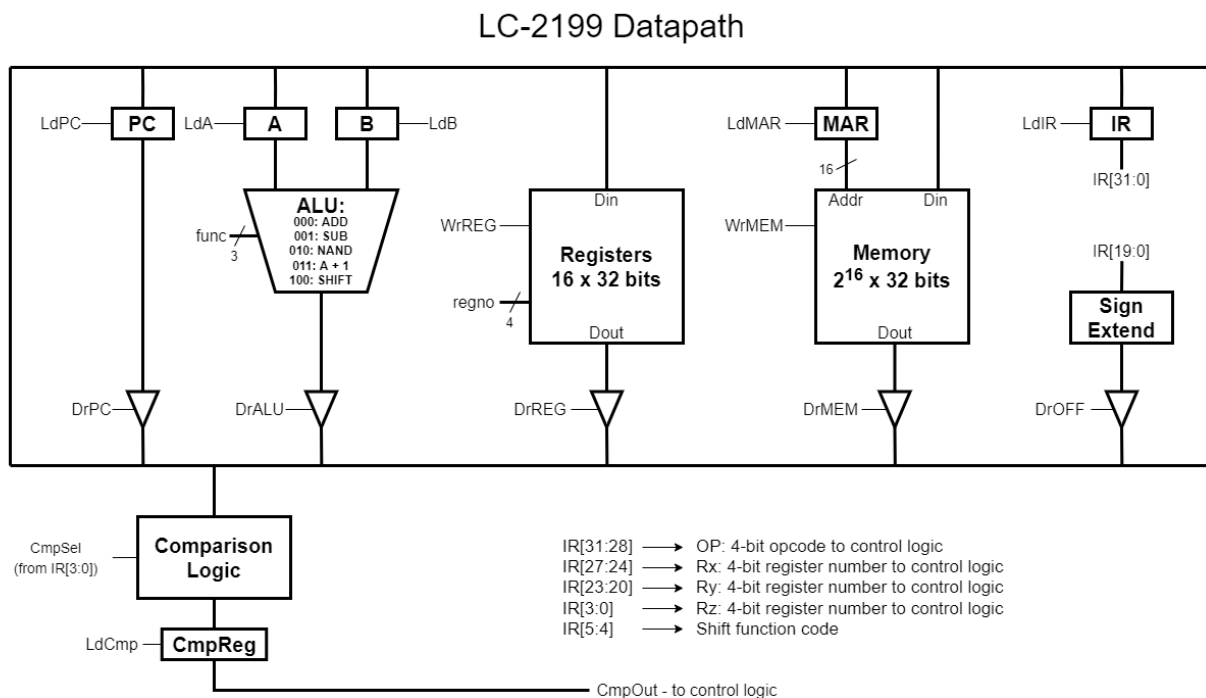

Figure 1: Datapath for the LC-2199 Processor
2. Using CircuitSim, implement the LC-2199 datapath. To do this, you will need to use the details of the LC-2199 datapath defined in Appendix A: LC-2199 Instruction Set Architecture. You should model your datapath on Figure 1.
2. Implement the Microcontrol Unit using CircuitSim. The appendix contains all of the necessary information. Take note that the input and output signals on the schematics directly match the signals marked in the LC-2199 datapath schematic (see Figure 1).
3. Connect the completed control unit to the datapath you implemented in Phase 1. Using Figures 1 and 2, connect the control signals to their appropriate spots.